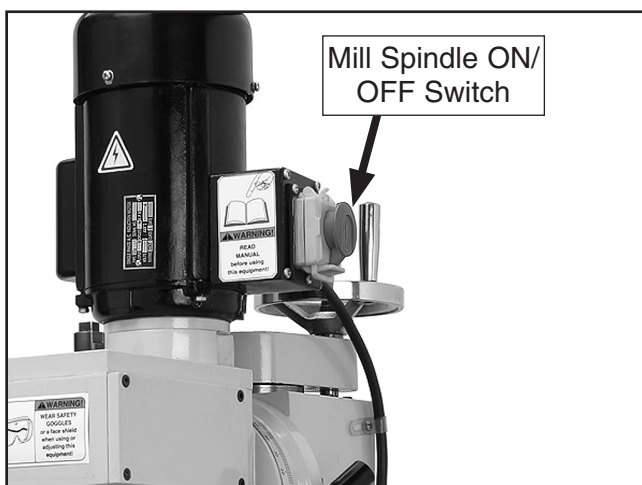

Figure 39. Start switch location.
4. Turn the mill **ON** (Figure 39).